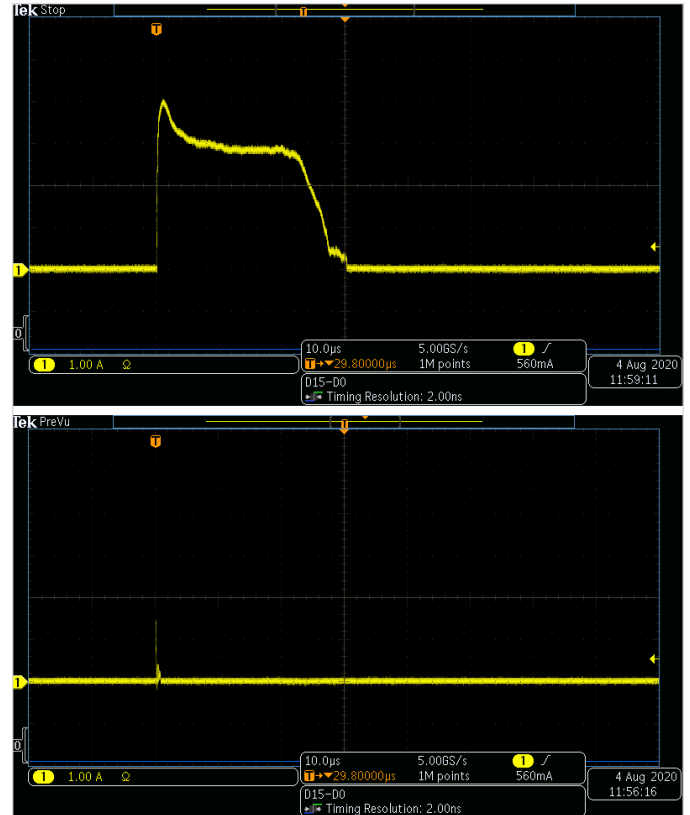

Figure 8. Transient current by shorted device without protection module (top) vs. with protection module (bottom).
**Figure 8** shows a transient current when a DUT is shorted, which simulates breakdown. In the current waveform, a very high current peak (~4 A/30  $\mu$ s) occurs before the limit circuit function begins working properly. This unintended peak current can be controlled by the glitch buster in the protection module. **Figure 8** shows the peak is about 4 A (30  $\mu$ s) without the protection module and 1 A (<1  $\mu$ s) with the protection module.